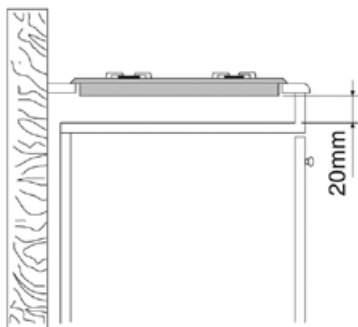
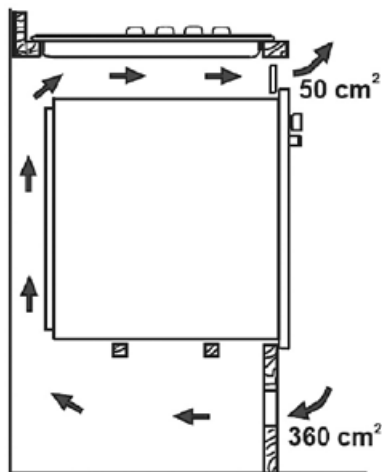

Fig. 8a
Fig. 10a
4. Measures of the desired hole in the worktop are on Fig. 7. Allow side gaps of min. 100 mm from the adjacent objects and cabinets, from non-flammable materials and walls leave min. 50 mm (Fig. 8a, 8b). Allow a rear side gap of minimum of 55 mm.
7. If no oven is installed under the appliance, allow a gap of a minimum of 20 mm below it (Fig. 8a). If an oven is installed underneath, for effective air circulation the unit must be installed according to the dimensions on Fig. 10a or 10b.